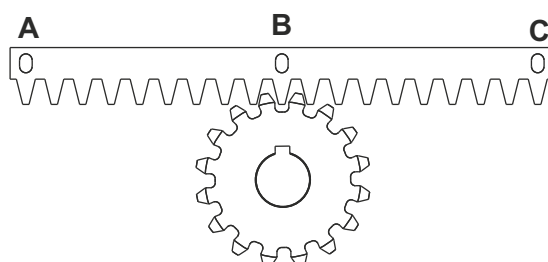
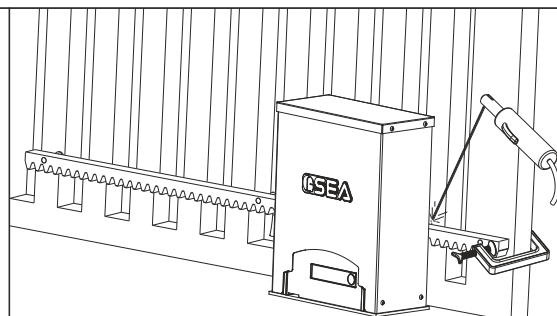

Fig. 9
Fig. 10
5.3. Lean the gear rack element on the toothed pinion of the operator in parallel to the ground slideway of the gate, as shown in Fig. 9 and electrically weld the central pawl **B** to the gate structure (Fig. 10).